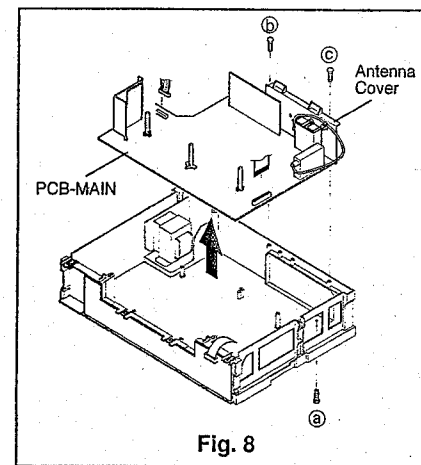

Fig. 8
- ⑤ If necessary to remove PCB-MAIN completely, remove the Assy Deck. (Refer to Para. 5 of the DISASSEMBLY.) Remove all connectors on the PCB-MAIN. Remove one fastening screw (Ⓐ) on the bottom and two fastening screws (Ⓑ and Ⓒ) on the Antenna Cover shown in Fig. 8. Raise the PCB-MAIN upward to remove it.